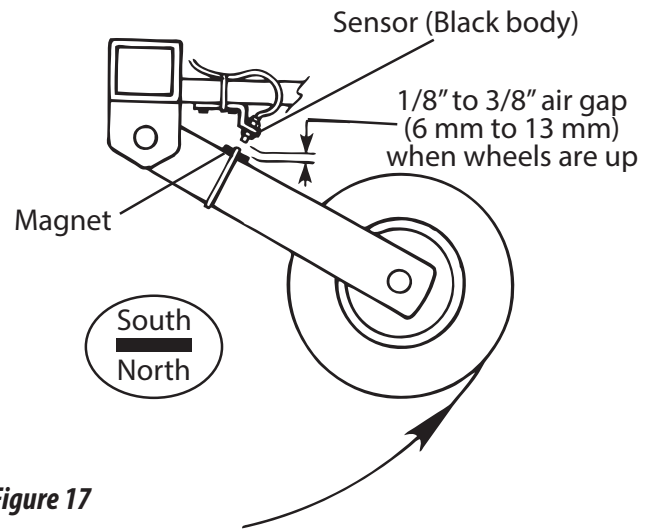

Figure 17
1. Choose magnet location on lever or some part of the equipment that moves when the implement is raised and lowered - be sure location will not interfere with any moving parts. See **figures 17 and 18** at right.